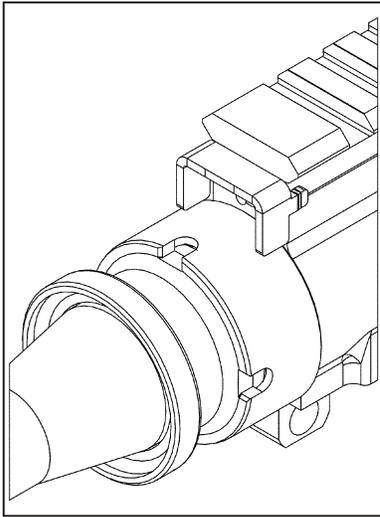

Figure 1
- Position the KMR barrel nut over the barrel, threads positioned to the rear, and slowly tighten the KMR barrel nut by hand. (See KMR barrel nut pictured in **Figure 1** below.)
- Position index plate onto upper receiver as shown in **Figure 1**.